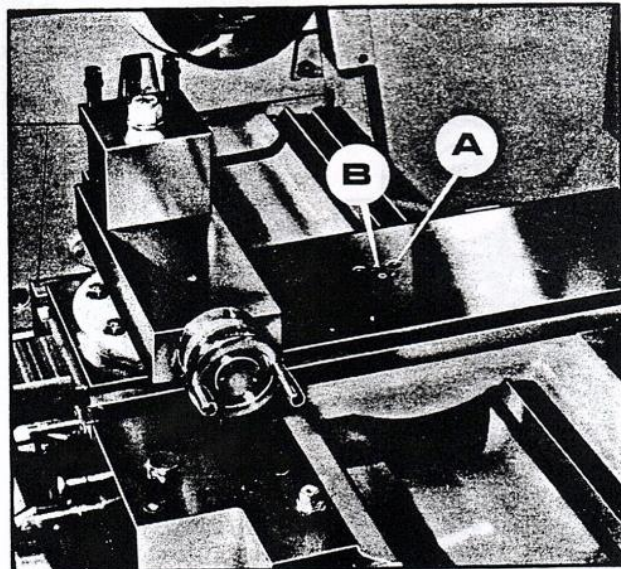

Fig. 24
This is adjustable for elimination of slackness which may develop in service. Reduce backlash by slackening rear cap-head screw in top of cross-slide (A in Fig. 24) then carefully screw in the center screw (B) to adjust a wedge within the split nut.